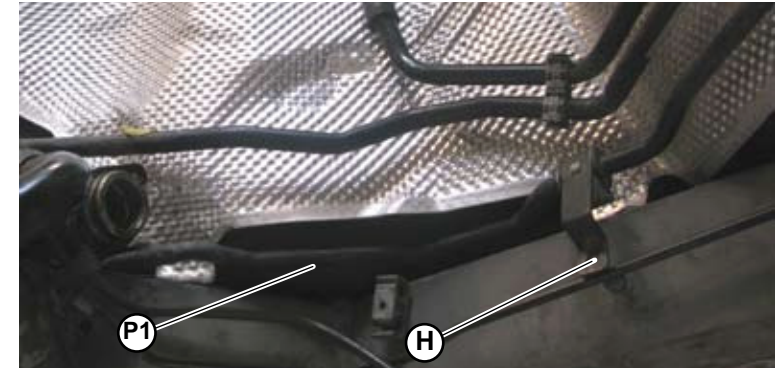

Fig.28
7. Loosen the screw (**H-Fig.28**) fastening the mounting bracket on the front part of the **P1** delivery pipe to the chassis.